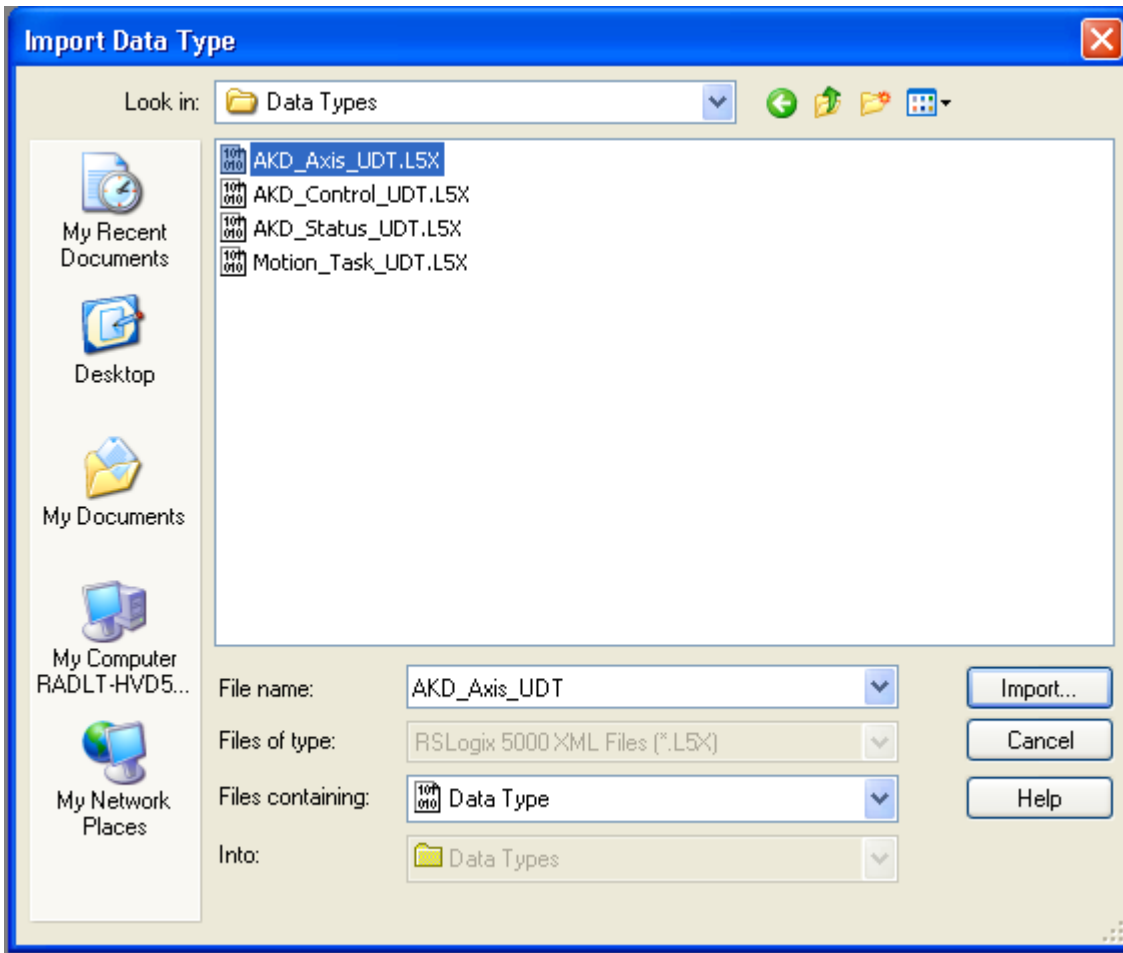

Figure 5-7: Selecting a UDT
3. Browse to the location of the AKD User Defined Data Type library and select the desired User Defined Data Type then click “Import...” (Figure 5-7: Selecting a UDT)